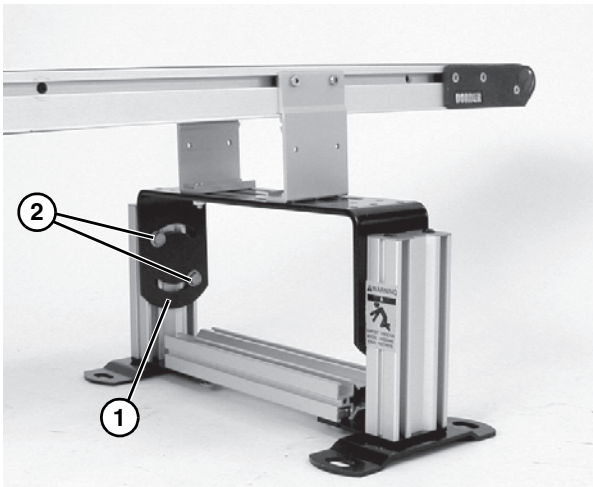

Figure 14
1. Loosen mounting bracket (Figure 14, item 1) flange head hex screws (Figure 14, item 2).
2. Raise or lower mounting bracket (Figure 14, item 1) to the required height.
Failure to secure screws (Figure 14, item 2) may cause conveyor sections to drop down causing severe injury.
**TIGHTEN SCREWS** (Figure 14, item 2) **AFTER ADJUSTMENT.**
3. Tighten flange head hex screws (Figure 14, item 2) to 150 in-lb (17 N-m).